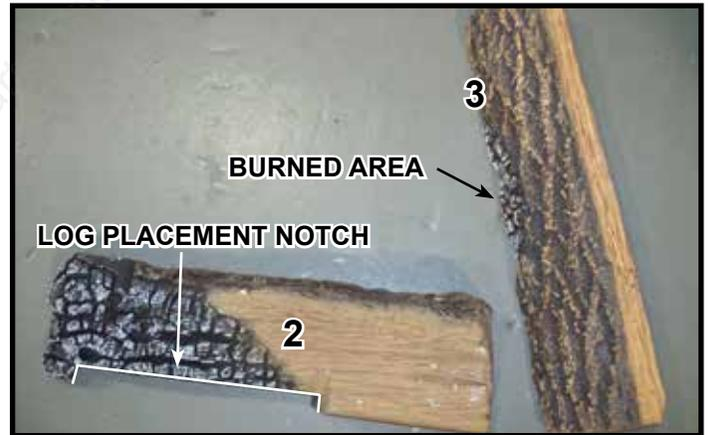
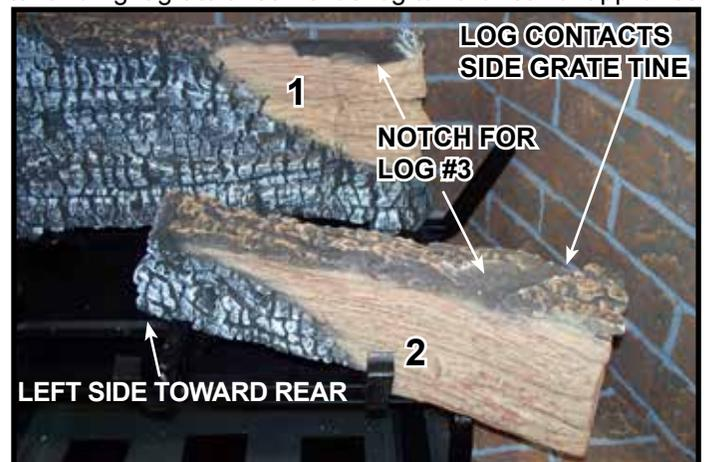
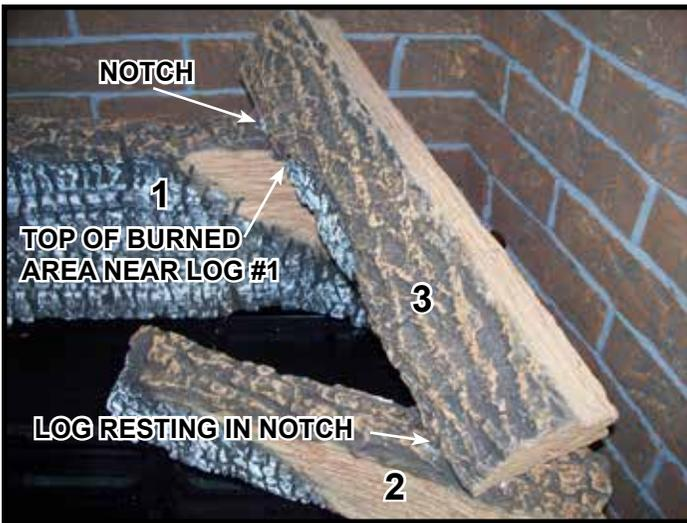

Figure 4.
Figure 5.
Figure 6.
**Log #2 (SRV2280-702 for TRUE-36, SRV2281-702 for TRUE-42):** Locate log placement notch on the bottom of Log #2. See Figure 4. Mate notch on the bottom of Log #2 with the center and right grate tines. Slide log toward rear of appliance until right end contacts the side grate tine. See Figure 5.
**Log #2 (TRUE-36):** Log #2 will be about 1 inch from the back of the center grate tine when properly placed. See Figure 5.
**Log #2 (TRUE-42):** Log #2 will contact center log placement tab on center grate tine. See Figure 5.
**Log #3 (SRV2281-703):** Locate log placement notches for Log #3. See Figure 5. Place Log #3 onto notches so that the bottom of the log rests in the notch on log #2 and the top rests in the left hand side of the notch on Log #1. The top of the burned area on Log #3 will be close to Log #1 when properly positioned. See Figure 6.